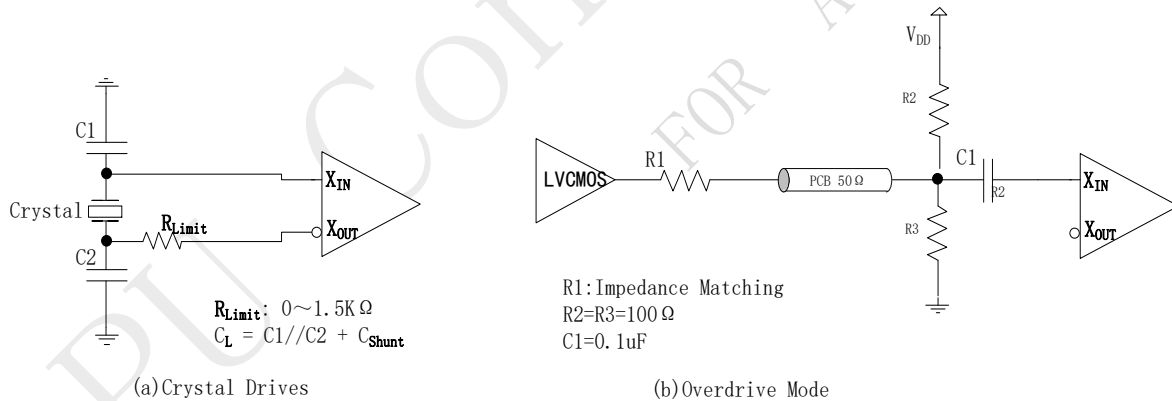

Figure 5. XIN/XOUT
**XIN/XOUT:** Accept both crystal input and single-ended LVCMOS signals in overdrive and bypass modes. In overdrive mode, it is necessary to ac-couple the input with a capacitor (see Figure 5). Otherwise, in bypass mode, there is no requirement for a coupling capacitor.